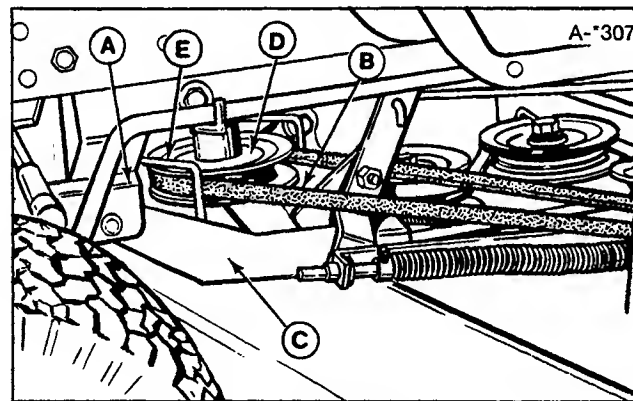
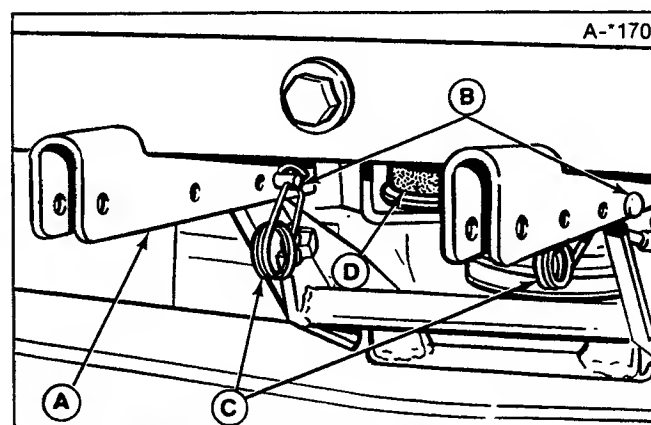
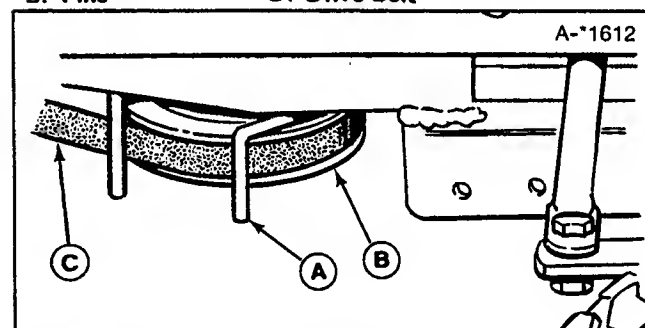

Figure 3. L.H. PTO Pulley Belt Stop
Figure 4. Mower Hitch Attached
Figure 5. R.H. PTO Pulley Belt Stop
- Position the mower hitch arms (C, figure 3) so they are underneath the rear holes in tractor hitch (A, figure 4). Lift up one side of mower with both hands and align hole in mower hitch arm with rear hole in tractor hitch. When holes align, insert clevis pin (B) through hitch
with pin head on outside as shown in figure 4. Using a 2' x 4' wood block for support may make hole alignment easier. Go to the other side and insert the other pin. Install the two safety clips (C) in the pins.
- Slip the mower drive belt onto the engine PTO pulley (D, figure 3). Loosen the belt stops if necessary. The left-hand belt stop is item E in figure 3. The right-hand belt stop is item A in figure 5.